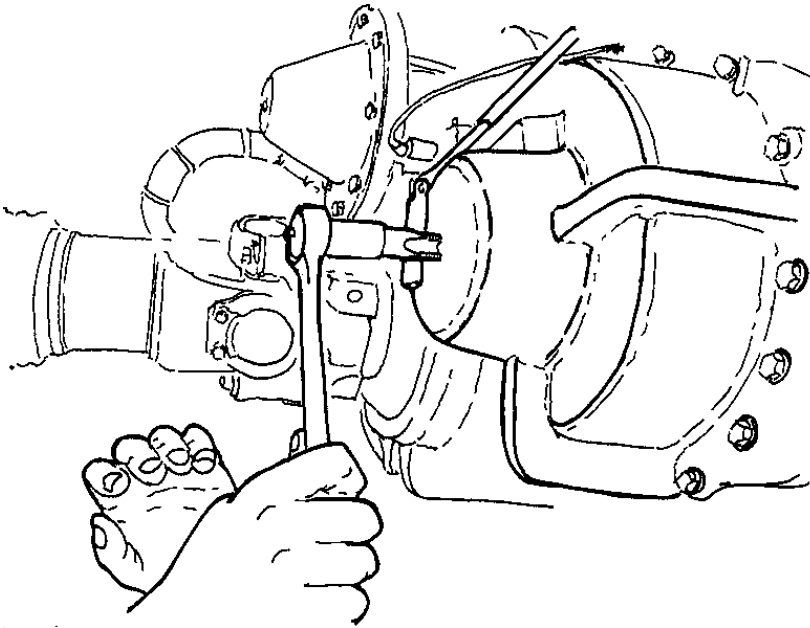

Figure 8 Tap Hole
7. Tap the hole with a 3/8-18 NPT pipe tap (Figure 8).